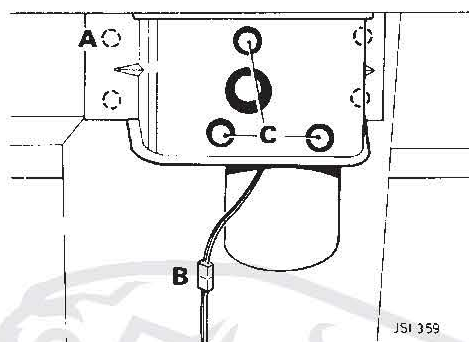

Fig. 6
4. Remove the four nuts securing the motor mounting bracket to the rear bulkhead, A Fig. 6.
6. Disconnect the electrical harness, B Fig. 6.
8. Remove the three hexagon headed screws securing the motor to the bracket, C Fig. 6, and remove the motor.